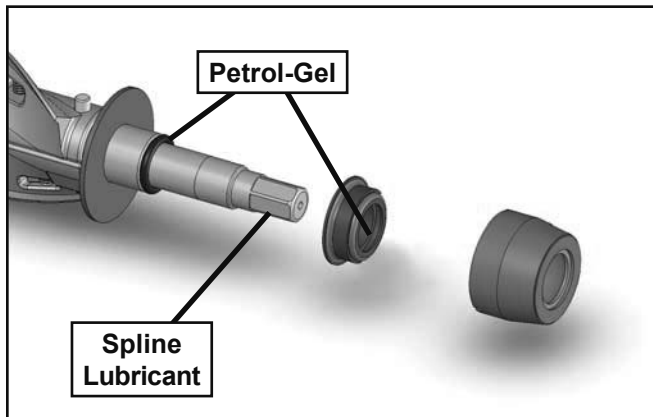

Figure 3-6 Rear Seal Assembly
- C. Install the stainless steel rear seal adapter into the rear seal dry (without lubricant). Lubricate the inside surface of the rear seal adapter, including the adapter o-ring, and install it onto the auger shaft. DO NOT lubricate the outside of the rear auger seal (Fig. 3-6).